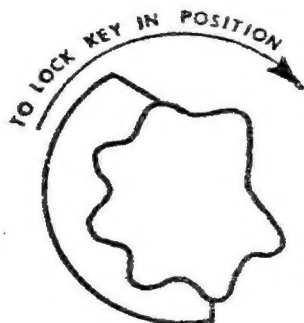

FIG. 10
3. Now turn the knob clockwise. This brings the key clamp in contact with the key bow, and holds the key in position (fig. 10). Do not attempt to cut keys without engaging clamp.